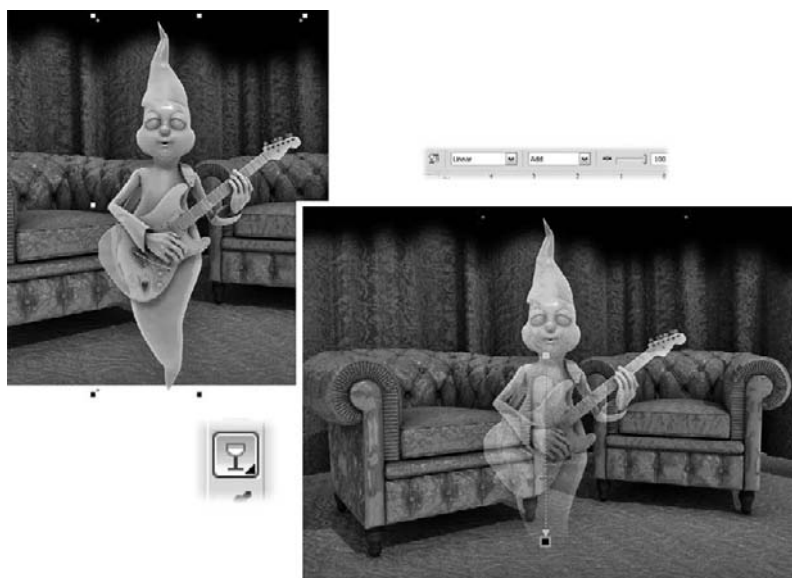

FIGURE 27-11
4. Try changing the merge mode for this transparency to Add, from the drop-down selector on the Property Bar, which currently highlights the Normal mode. Add mode accentuates the underlying deep reds of the background image mostly because the ghost guitarist is almost pure white. Check out Figure 27-11, and check into Chapter 22 if you haven't already, to learn what other things you can do with the Transparency feature.